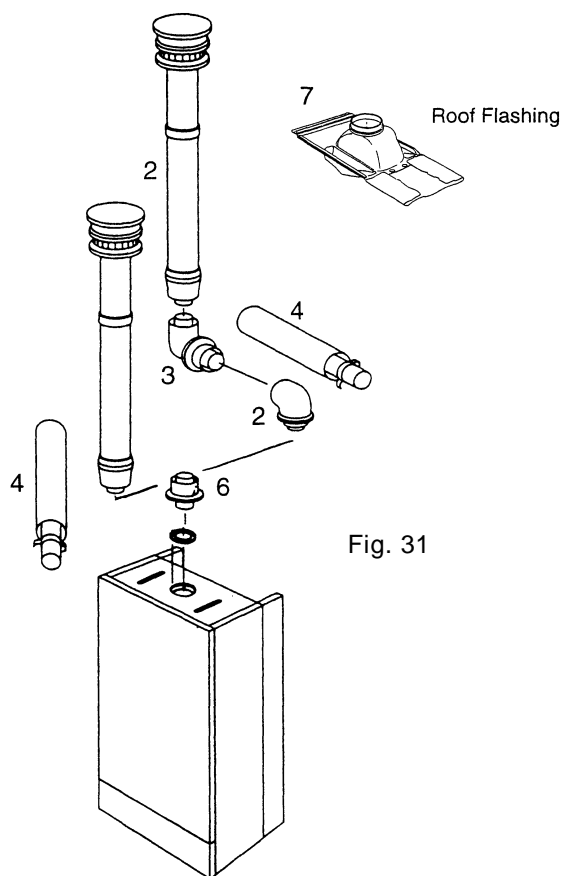

Fig. 31
- Position the straight header on the top of the appliance (fig. 31) item 6, and ensure that the gasket is correctly fitted.
Fit a roof flashing sleeve (fig. 31 item 7) to the roof, available from Ravenheat Manufacturing.